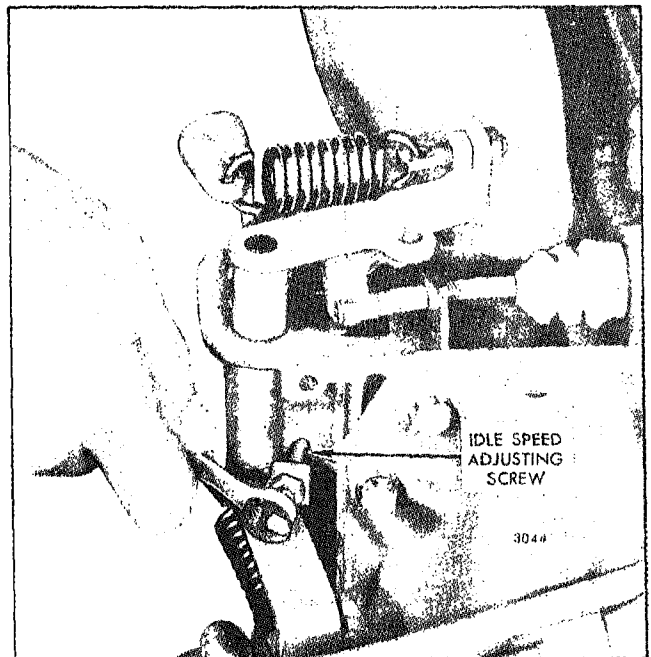

Fig. 6 - Adjusting Idle Speed
2. With the engine running at normal operating temperature, loosen the lock nut and turn the idle speed adjusting screw (Fig. 6) until the engine idles at the recommended speed. The recommended idle speed